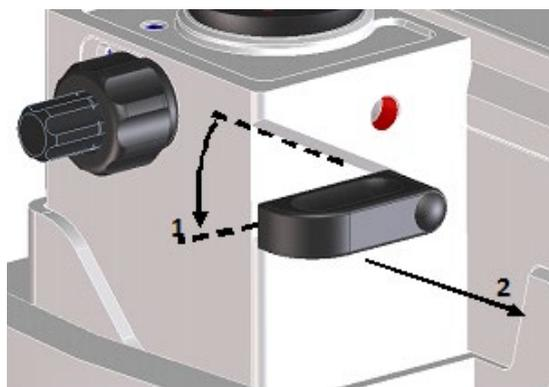

Fig 26
- Loosen the clamping of the specimen clamp, Fig 26 (1).
- To replace the specimen clamp turn the eccentric lever downwards, Fig 26 (1) to the stop and pull it off, Fig 26 (2).